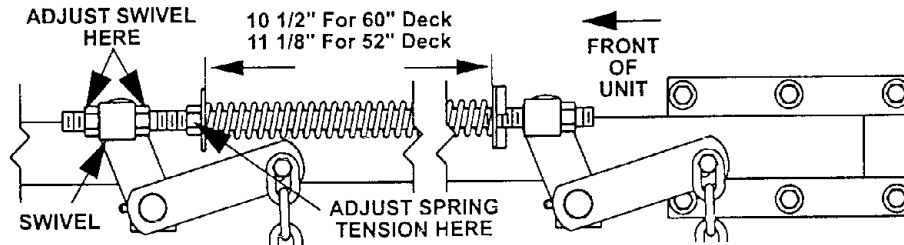

FIG. 7
- c) Check tire pressure of all four (4) tires. If needed, adjust to 13 psi (90 kPa).
- e) Raise the deck to the 5" height position and take all force off of the two large deck lift springs by loosening the nut at the front of each spring. See Fig. 7.
- f) Lower the deck to the 1-1/2" height position. Place a 3/4" thick block of wood under each of the two (2) rear anti-scalp roller brackets and place one under *one of the front center* anti-scalp roller brackets.
- g) Loosen the four (4) top chain bolts in slots. Check the length of the rod swivel assemblies. The distance from the outside of the rear swivel to the outside of the front swivel should be *about 20-1/4 inches*. Make sure that all four (4) swivels are free, adjust so they are free in holes. Note: *This may not measure 20-1/4 inches on each side*. Adjust length by turning nuts on either side of front swivels.
- h) Adjust the two (2) rear upper chain attachment bolts in the slots to take the slack out of the chains. (Deck is still supported by wood blocks under the caster roller brackets). Tighten hardware on the rear chains.
- i) Adjust the two (2) front upper chain attachment bolts in the slots to take the slack out of the chains. (Deck is still supported by one wood block under one of the front roller
- k) Raise deck lift lever to the 5" cutting height position (also transport position, See Fig 5. Adjust spring compression until proper distance is obtained between the two large washers (See Fig 7). Adjustment is made by turning the nut at the front of each spring (clockwise will shorten the spring, counter-clockwise will lengthen the spring).